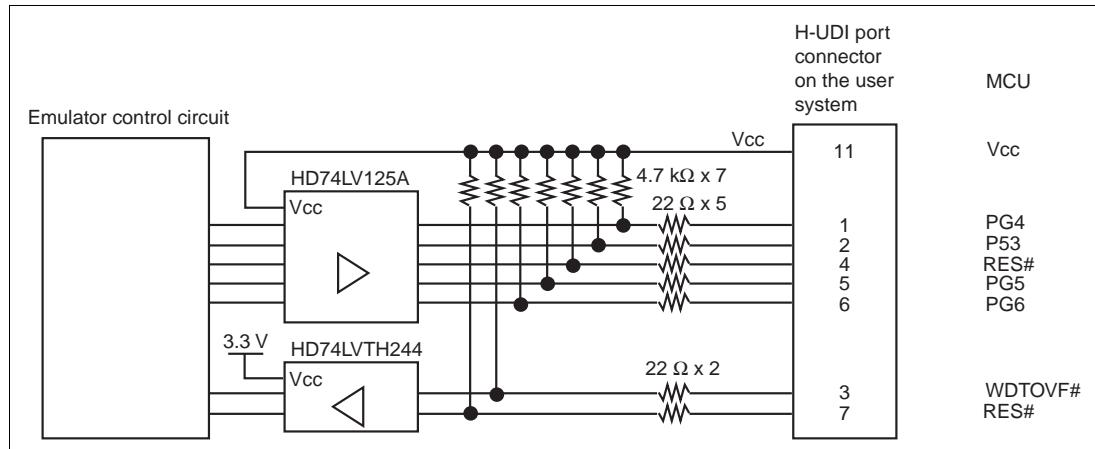

Figure 1.7 Interface Circuit in the Emulator (Reference)
6. Figure 1.7 shows the interface circuit in the emulator. Use this figure as a reference when determining the pull-up resistance value.